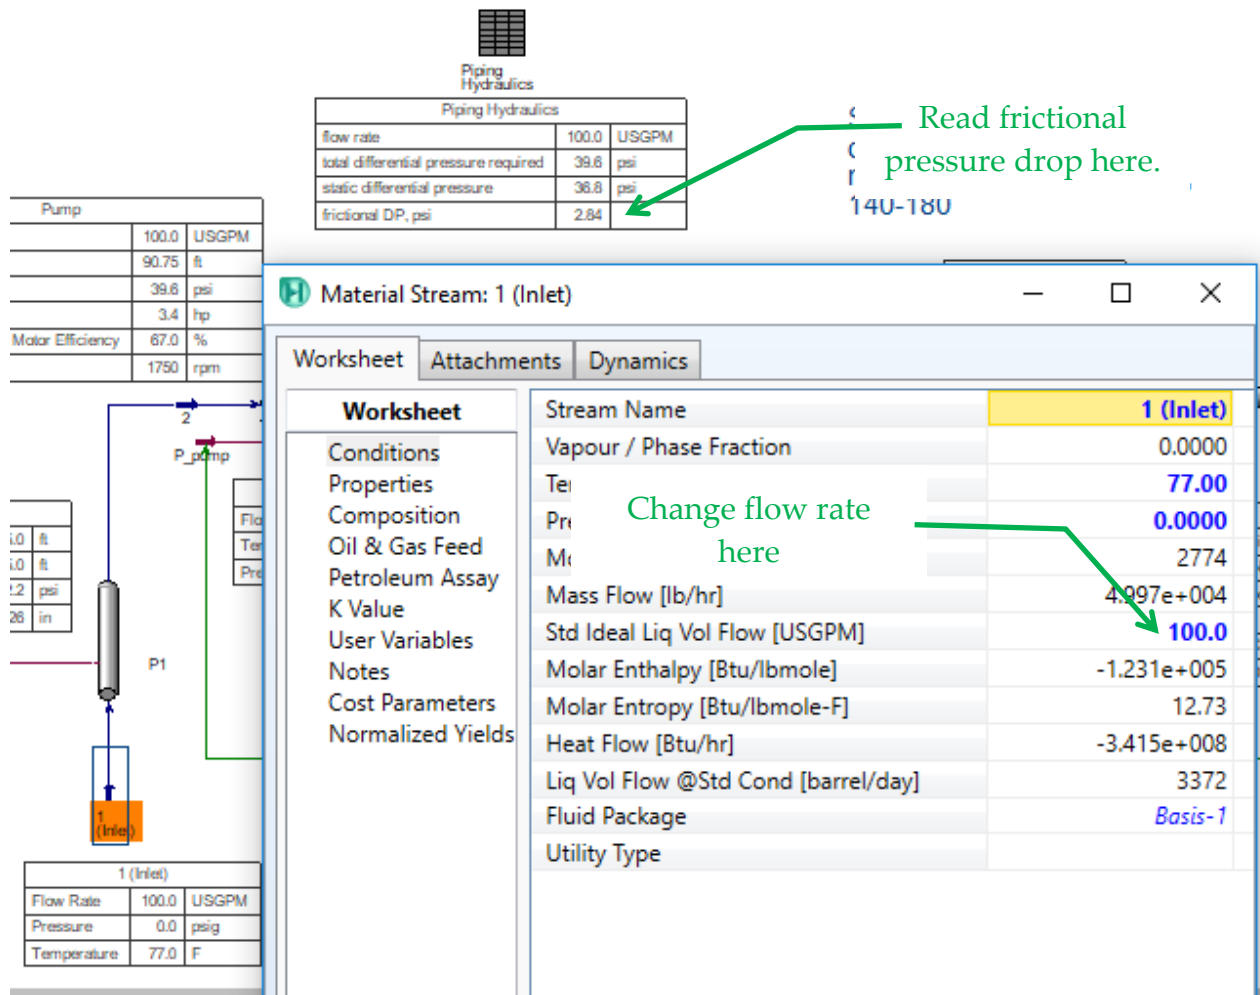

Figure 6. Obtaining points for the system curve.
- 3) Compute and plot the system curve, including the pressure drop across the orifice but *without* the control valve, over a range of flows slightly broader than the control range. The points on the system curve are obtained from HYSYS as illustrated in Figure 6